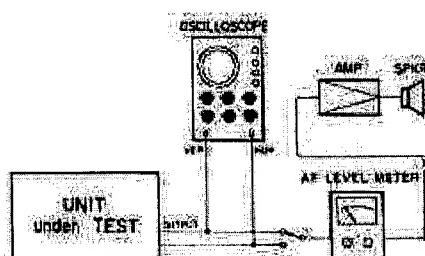

Fig. 9-7-6. Head Azimuth Test Set-Up.
3. Connect an AF level meter to the OUTPUT connectors as shown in Fig. 9-7-6.